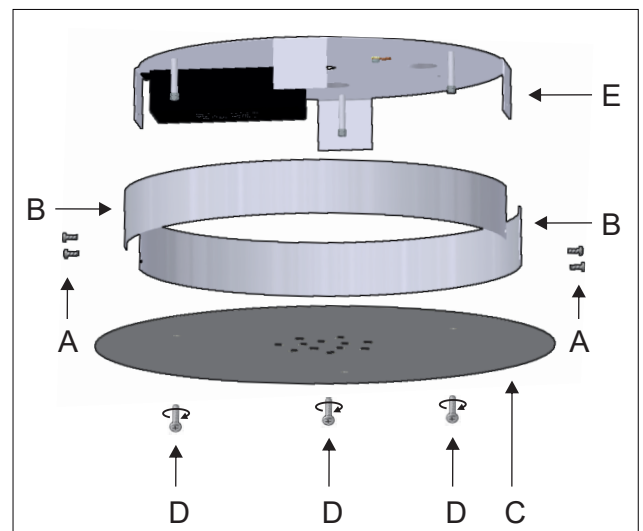

Figure 1
- 1 - Unscrew the four side screws (A) to release the decorative rims (B) located at the top of the canopy (C). Then unscrew the three screws (D) located at the inferior part of the canopy in order to separate it from the mounting bracket (E). Figure 1